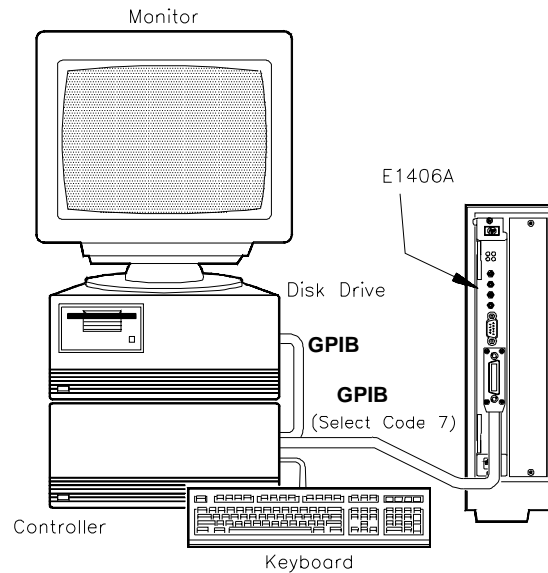

Figure 2-13. Test F-6: Triggering Info Connections
- Connect computer to Command Module (see Figure 2-13)